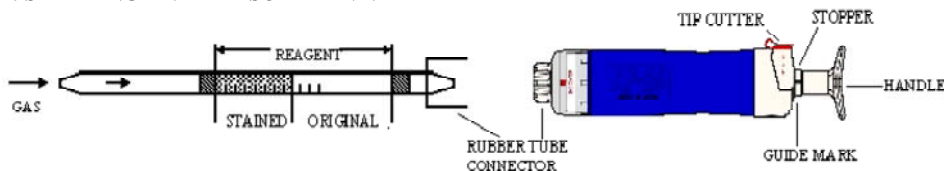

Fig.1
- ① Break both ends of detector tube.
- ② Insert the detector tube into aspirating pump securely as shown in Fig.1. (Arrow mark shall point to the pump.)
- ③ Align the guide marks on the shaft and stopper of the aspirating pump.
- ④ Pull the pump handle at full stroke until it locks and wait for 1 minute or until the completion of sampling is confirmed with the flow indicator of the pump (See descriptions about the flow indicator in the instructions of the pump).
- ⑤ Push the handle without removing the detector tube from the inlet, and air in the pump will be discharged perfectly. Then repeat the step ④ once.
- ⑥ On completion of sampling, read the scale at the maximum point of the stained layer.
- ⑦ In case that the concentration is less than 0.2 ppm, push the handle without removing the detector tube from the inlet, and air in the pump will be discharged perfectly. Then repeat the step ④ twice.
- ⑧ When the concentrations are below or over the scale range, multiple pump strokes can be used to determine these higher concentrations.